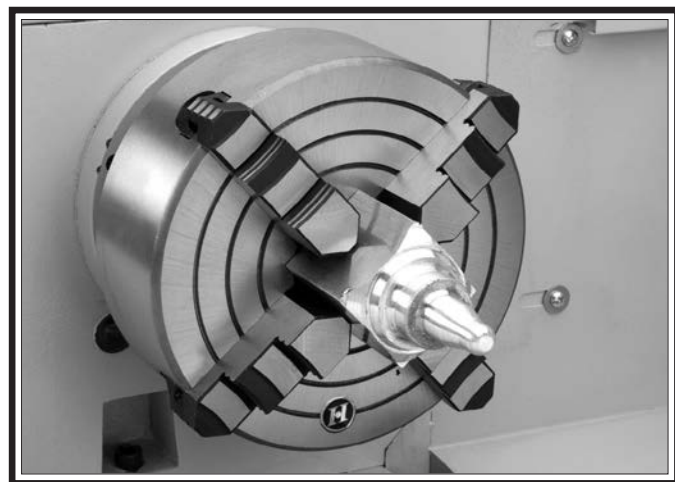

Figure 34. Example photo of non-cylindrical workpiece correctly mounted on the 4-jaw chuck.
- If the workpiece is not correctly centered, make fine adjustments by slightly loosening one jaw and tightening the opposing jaw until the workpiece is correctly positioned (see **Figure 34** for an example).